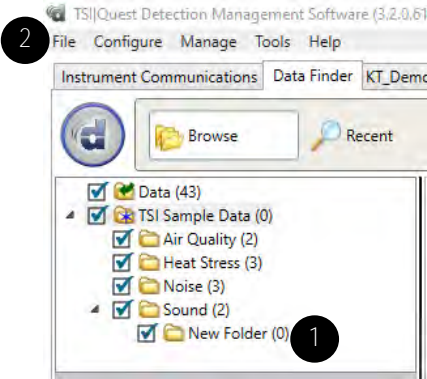

Figure 1-51: Edge and importing a shared data file
Point your mouse over the folder you want to save the data in the data finder page, and DMS will display the file location (see **1** of Figure 1-51). If the file was emailed, right-click on the attached file and save it to the location displayed from the DMS mouse over (if applicable). Once saved, right-click on the folder via the Data Finder Page and select Refresh. The files will be imported into DMS.
- Alternatively, from the menu bar, select File (see **2** of Figure 1-51), Open, and then browse to the folder location, select the file, and click OK.